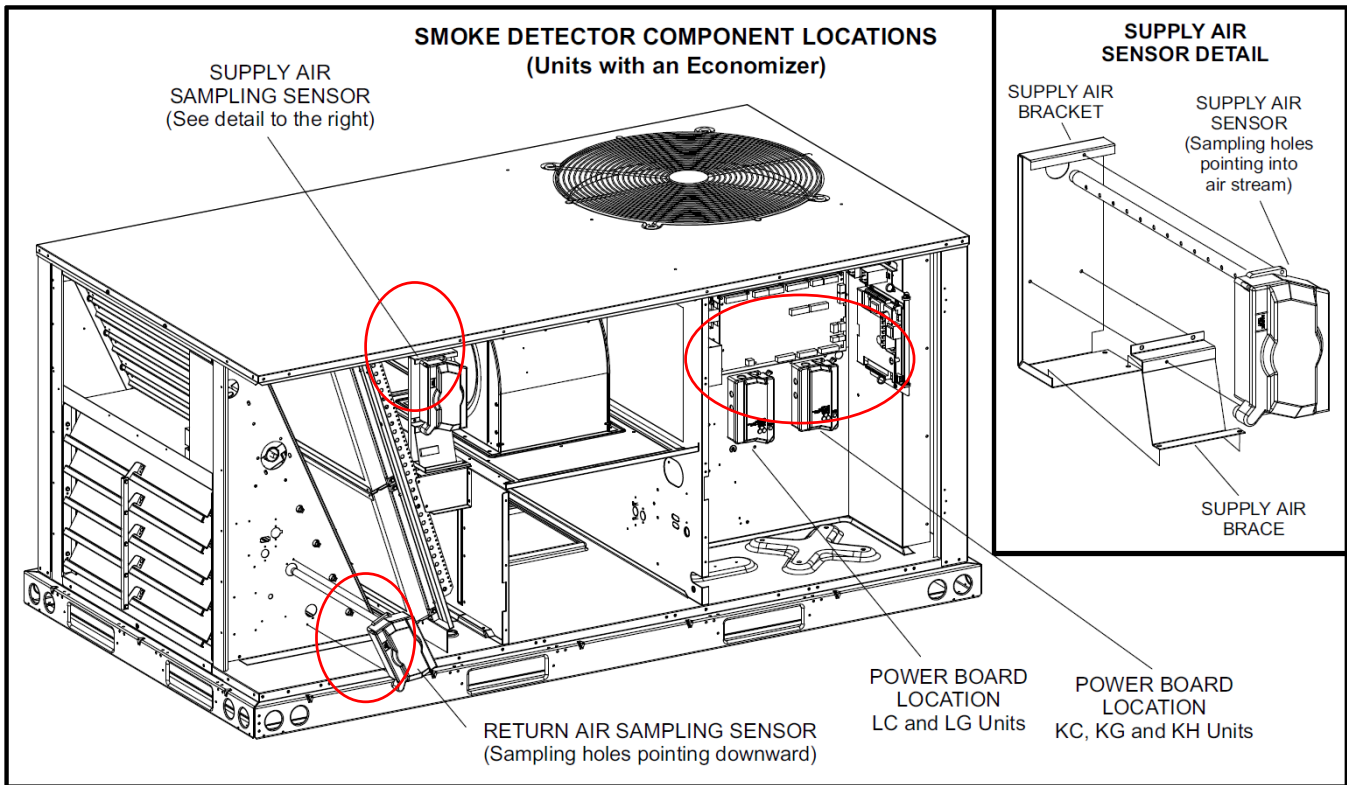

Figure 1. Smoke Detector Kit Component Locations
- a. Refer to the D4P120 & D4S Smoke Detector Kits Installation Manual – 506418, or Figure 1 below, for approximate smoke detector kit component locations.